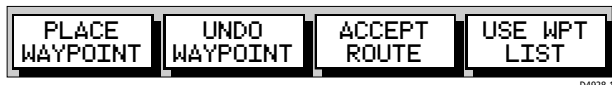

Figure 3-31: Make Route Soft Keys
4. Press the MAKE ROUTE soft key; the make route soft keys are displayed as shown in *Figure 3-31*.